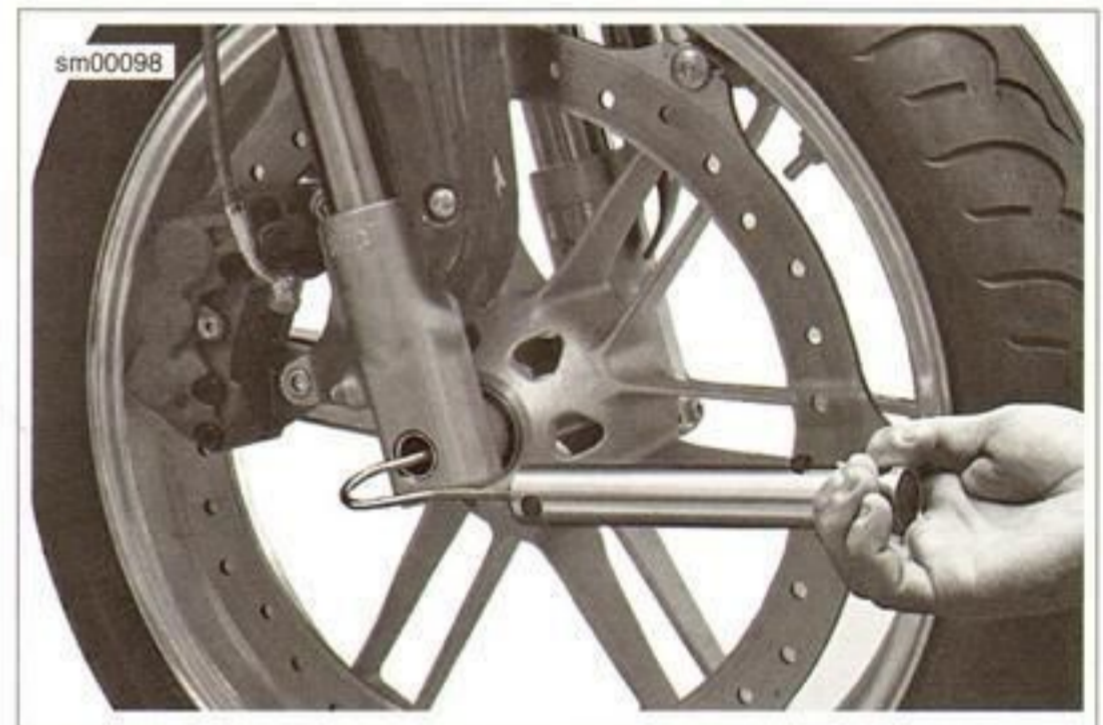

Figure 1-65. Measuring Steering Head Bearing Resistance (Typical)
7. See Figure 1-65. Pull front wheel to center position and read the scale. Refer to Table 1-14.